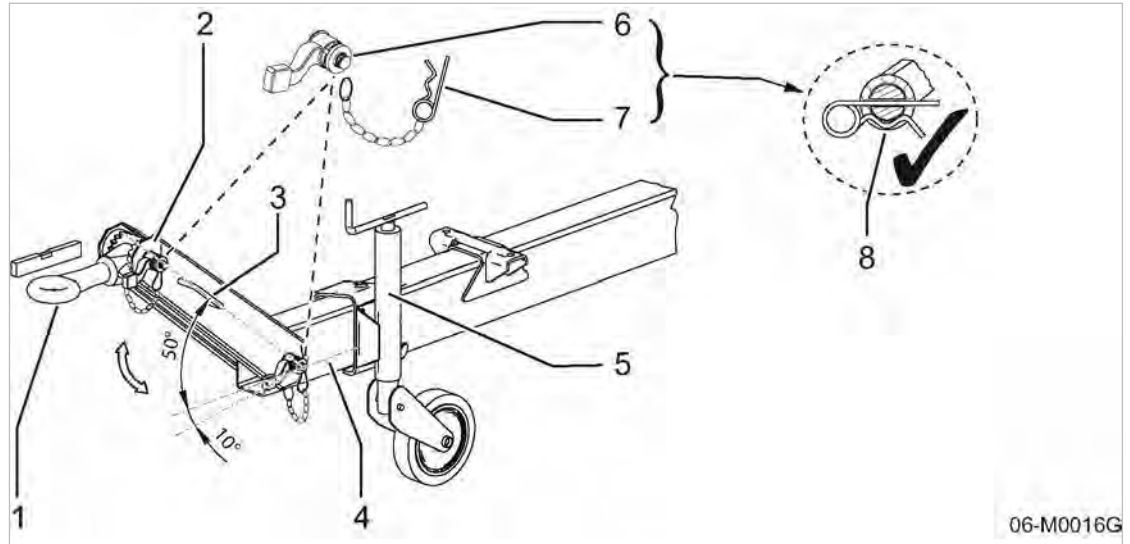

Fig. 26 Towbar height adjustment
- the split pin is correctly inserted to secure the locking lever (see Pos. 8 in Fig. 26).